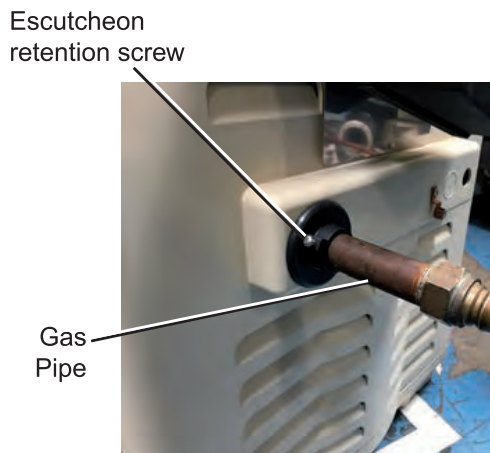

Figure 1. Escutcheon installed on gas pipe. Be sure the escutcheon covers the circular opening in heater panel.
1. Place the gas pipe escutcheon over the gas pipe, see Figure 1.